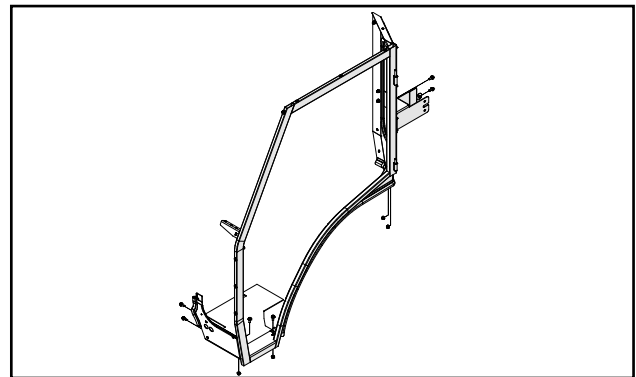

Fig. 6.1 (Left Side Frame)
- 6.1 Set the left side frame in place and loosely secure the ROPS mount to the ROPS bracket already attached to the ROPS in step 4. Next, attach to the front legs already attached to the vehicle cowl in step 3. Lastly, install two screws and nuts through the floor board. See Figure 6.1.